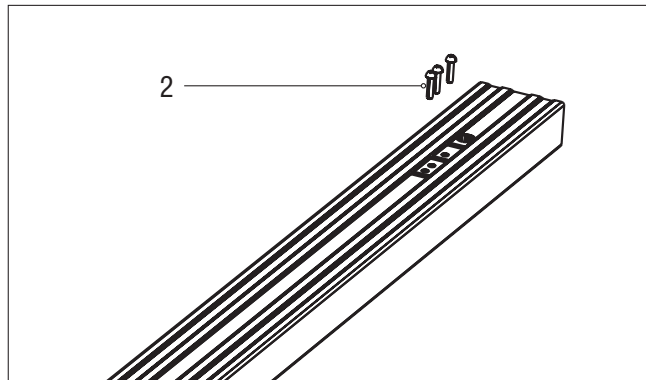

Figure 2
3. Unfasten screws of a sprocket holder, pos. 2 (fig. 2).